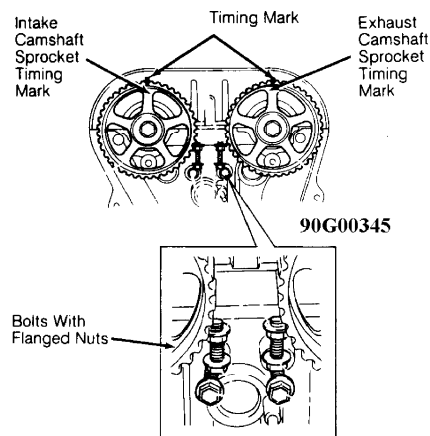

Fig. 8: Securing Intake & Exhaust Camshaft Sprockets For Timing Belt Installation (DOHC)
1) Align timing marks. Bolts with flanged nuts may be wedged between cam sprocket teeth to hold camshaft on timing mark during belt installation (if necessary). See Fig. 8.